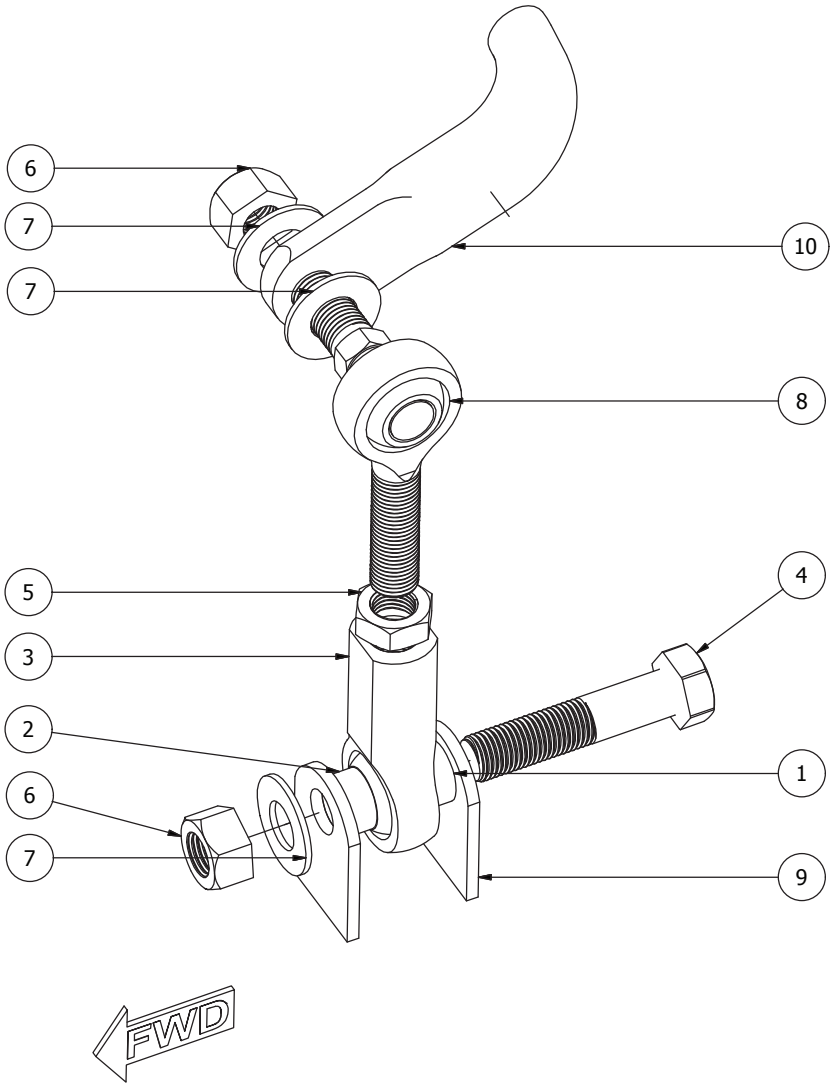

Figure 1 - Rear left sway bar link assembly
3. Assemble and install the sway bar end link as shown in Figure 1. Connect the link to the lower control arm sway bar link bracket first, then adjust the link to the desired length before connecting it to the sway bar.